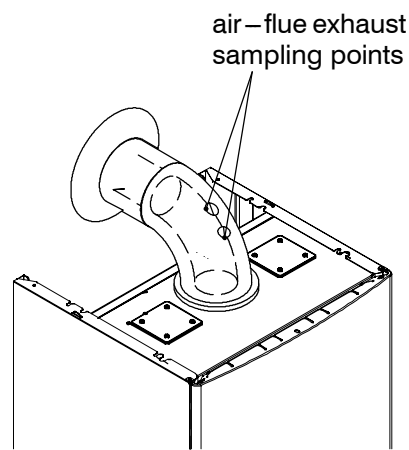

Fig. 11.3
- 11 Fit the probe of the flue analyser in the flue exhaust sampling point located on the exhaust pipes of the boiler (Fig. 11.3).